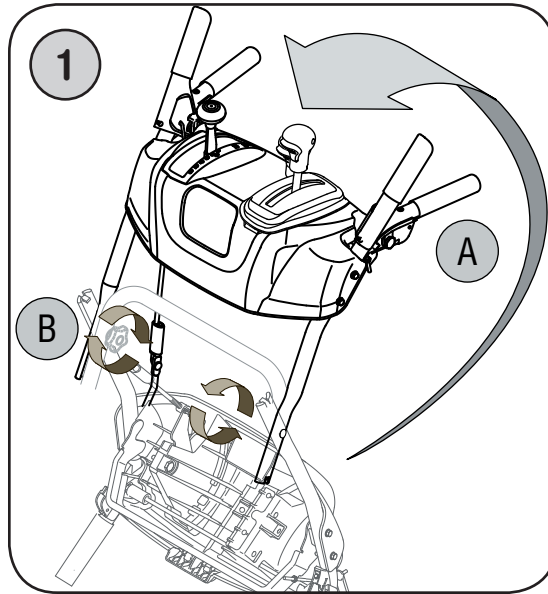

Figure 1
- a. Pull up and back on upper handle as shown in Figure 1. Align upper handle with the lower handle.
Now that you have set up your snow thrower for operation, get acquainted with its controls and features. These are described below and illustrated in Figure 1. This knowledge will allow you to use your new equipment to its fullest potential.